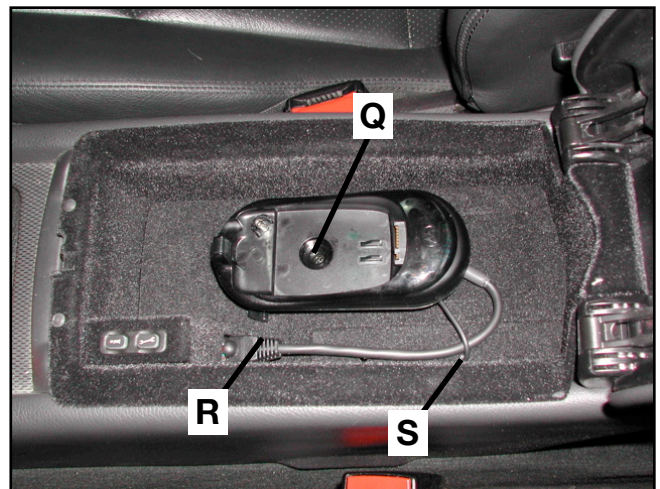

Figure 10
1. Remove the rubber mount cap on the cradle (Q, Figure 10)
3. Connect the RJ-45 cable to the jack on the panel. (R, Figure 10)
4. Route the antenna cable through the lower cable hole. (S, Figure 10) and re-attach it to the vehicles RF cable using the included antenna adaptor.